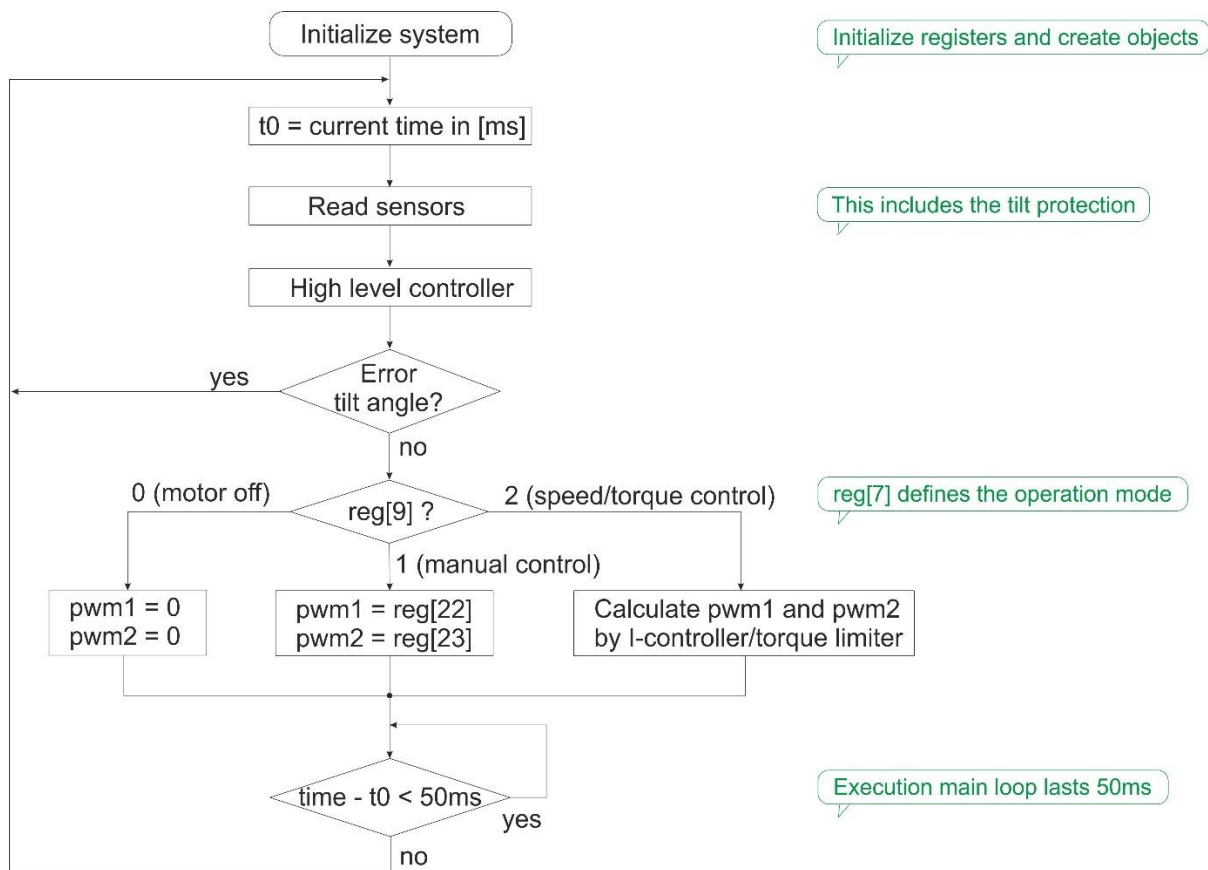

figure 5.1: flow-chart of motor controller application.
- Write a program that implements the flow-chart of figure 5.1.